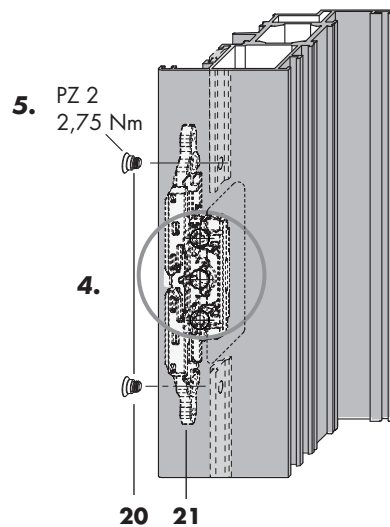

Figure 3
4. Insert the R-I DG LM M6 (pos. **21**) into the machined 72 x 15 profile recess strapping (figure 3).
5. Screw-fix the R-I DG LM M6 (pos. **21**) with coupling screw M6 (pos. **20**) into the connecting rod's Ø 5.2 punched holes (PZ 2, torque 2.75 Nm ± 0.25 Nm) (figure 3).